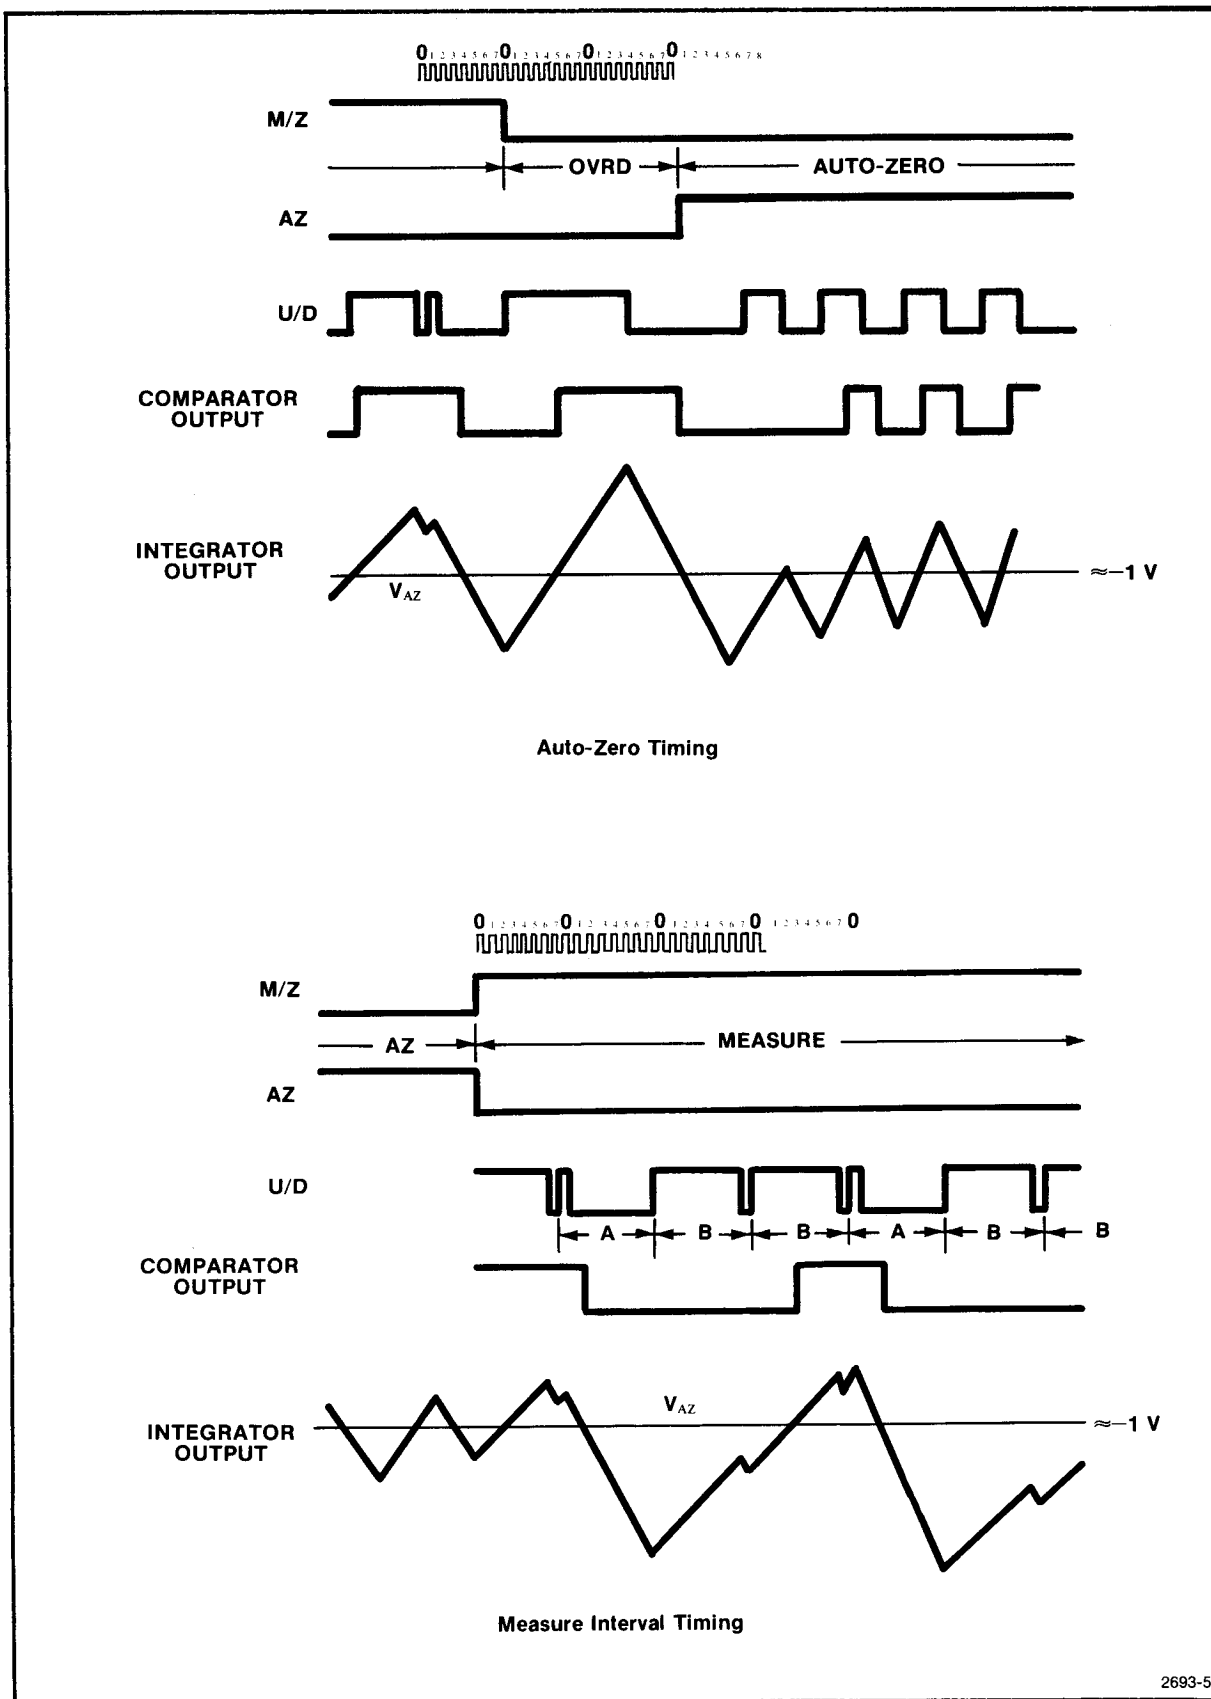

Fig. 3-1. Auto-zero and measurement interval timing sequences.
Referring to Fig. 3-1, the auto zero (AZ) interval nulls out the offset voltages generated in the internal amplifiers used in the analog-to-digital converter. A tracking reference voltage is automatically established. This voltage is necessary for bipolar conversion. The auto zero sequence is initiated when the measure-zero (M/Z) signal from U1311 switches the input buffer amplifier to ground. After a brief count correcting override period, the auto zero amplifier and integrator are connected together. During this time, the control logic in U1311 ignores the comparator output and pulses the internal up-down switch of U1461 at a 50% duty cycle (4 clock periods up and 4 clock periods down). Equilibrium of this system is attained when the average currents through R1458, R1443, and R1455 are equal and opposite. The auto zero voltage is thus established and stored on C1562. This is approximately  $-1$  V and is noted on Fig. 3-1. This auto zero voltage stored on C1562 establishes a reference voltage for the up-down (U/D) logic to switch either a plus or minus reference current to the integrator during conversion. When the up-down line (U1461, pin 4) is high, the reference voltage is positive. The auto zero time interval is sufficient to ensure that the auto zero voltage is well established.
The digital control logic in U1461 feeds units of charge (controlled by an analog comparator) to the integrating capacitor, C1432. This charge balances the charge supplied to the integrator by the analog input voltage. The sign of the charge fed back depends on the two up-down duty cycles available during the measurement interval as shown in Fig. 3-1. The comparator output is high when the charge on C1432 is above approximately  $-1$  V and low when the charge is below approximately  $-1$  V. The clock for the converter is generated by U1611. Potentiometer R1523 is adjusted for a frequency of 20.48 kHz. The up-down logic is high for 1 clock cycle and low for 7 clock cycles for a high comparator output in the clock cycle preceding the set of 8 cycles just described. This is designated duty cycle A. When the comparator output is low in clock cycle 7, the up-down logic is high for 7 cycles and low for 1 cycle during the 8 clock cycles following duty cycle A. This is shown as duty cycle B. The bottom waveform in Fig. 3-1 shows the effect of these two reference current duty cycles on the integrator output (pin 11 of U1461). When the up-down logic is in the high state (duty cycle B), the integrator output voltage rises. The bcd counter in U1311 increments by each clock pulse when the up-down logic is high and decrements by each clock pulse when the up-down logic is low. The net count increases by 6 counts for the B duty cycle and decreases by 6 counts for the A duty cycle.